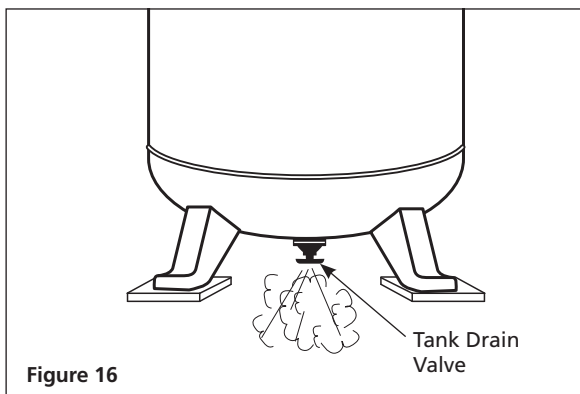

Figure 16
3. Open the tank drain valve (see Figure 16). Turn outlet valve to open air flow.